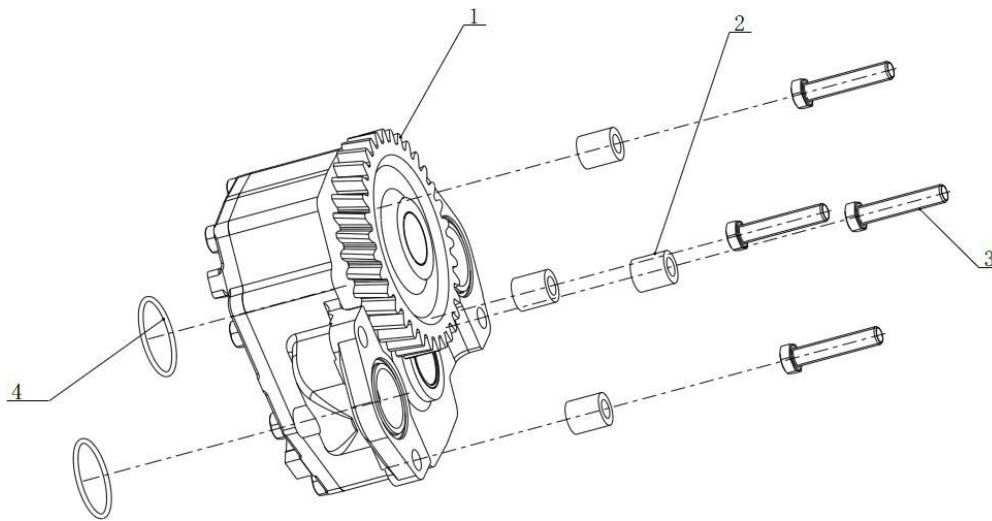

Figure 155. Oil Pump Assembly
4. Loosen the oil pump bolts (Figure 155, Item 3).
5. Remove the oil pump assembly (Figure 155, Item 1).
6. Remove the oil pump inlet and outlet O-ring (Figure 155, Item 4).
1. Apply oil to the inlet and outlet O-rings (Figure 155, Item 4)
3. Apply blue loctite on all four bolts (Figure 155, Item 3).